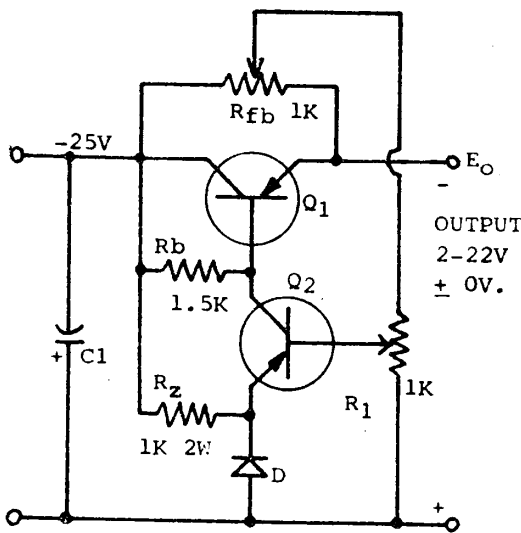

Fig. 27: THE PERFECT (?) REG.
Believe it or not, introduction of the dotted-in resistor of fig. 20 (April, p. 57) gives a power regulator which provides 100% perfect regulation -- at a price. Unfortunately the price is a bit steep, or this would be an Ultimate System. A slightly different version we have tried is shown in fig. 27 (p. 109). R_1 adjusts output as usual. For a
3) Positive feedback is clever only as long as it does not get out of control. What happens if it becomes sufficiently higher than the negative feedback, to allow sustained oscillation? When can this occur? When an a.c. signal of a certain frequency is applied such that the positive feedback is shifted a net 180° with respect to the negative feedback loop. What frequency? Who knows. It is not possible to tell without going through an exhaustive design analysis. The result? Imagine you have used a fig. 27-type circuit to power an ordinary Class B power amplifier. The power supply works like a charm, and the output d.c. voltage remains absolutely constant over most of the range of load, from d.c. to, let us say 3kc, but at say 3127.5 cps it goes berserk. As current load goes up the voltage shoots down then violently up and then down and up. At 3200 cps all is well, but but perhaps at 4691.125 cps the same thing happens but in reverse sequence. And so on. The result might sound nice with "electronic music" (what could ruin it?), but it could be pretty hard on Beethoven.